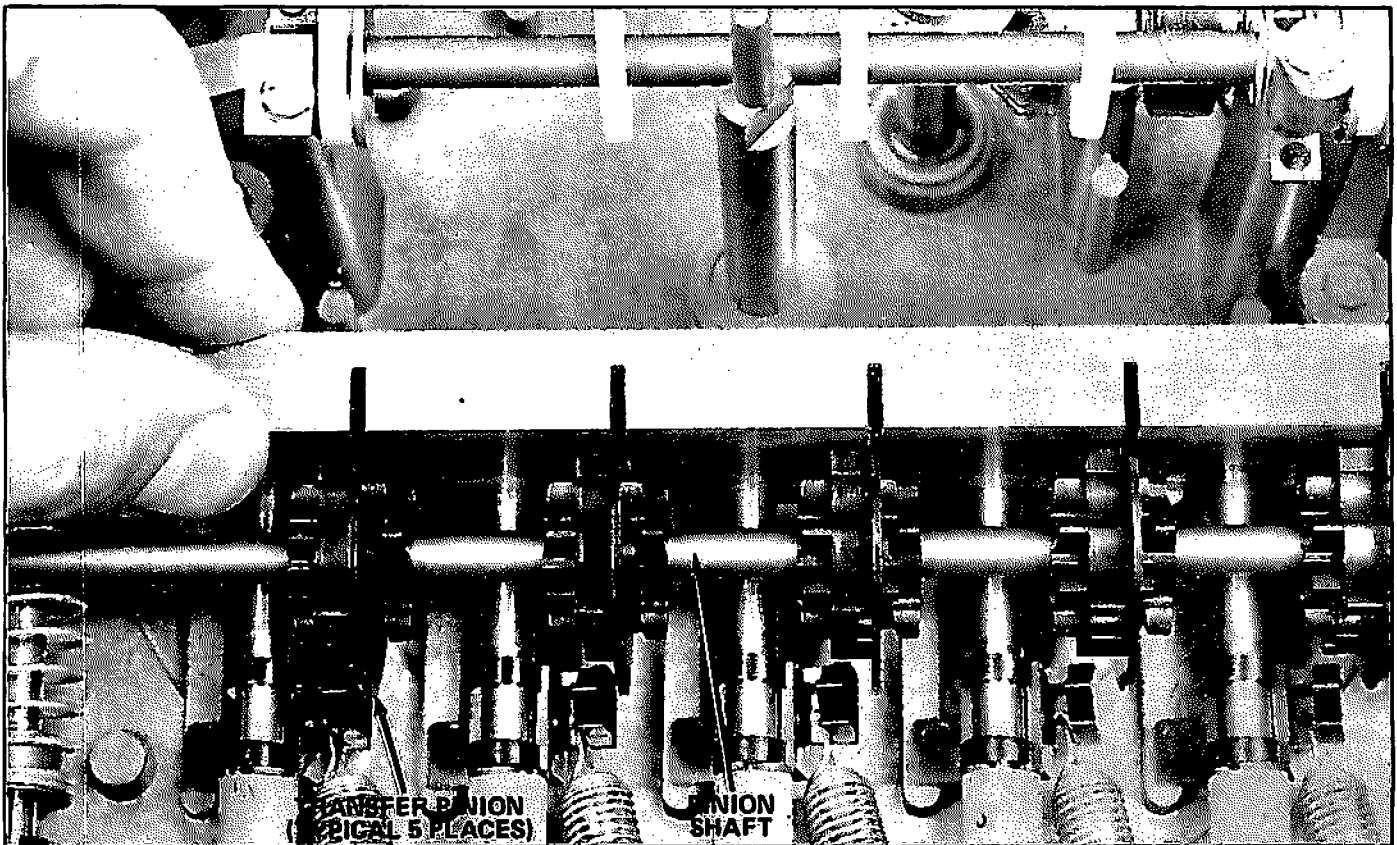

Figure 12. Aligning Transfer Pinions on Pinion Shaft.
1. Hold alignment tool (TD-42457) behind pinion shaft with notched end of tool on right side facing down (Figure 12).
2. Align transfer pinions on pinion shaft to engage with corresponding slots in alignment tool (Figure 12). Then, seat alignment tool in place.